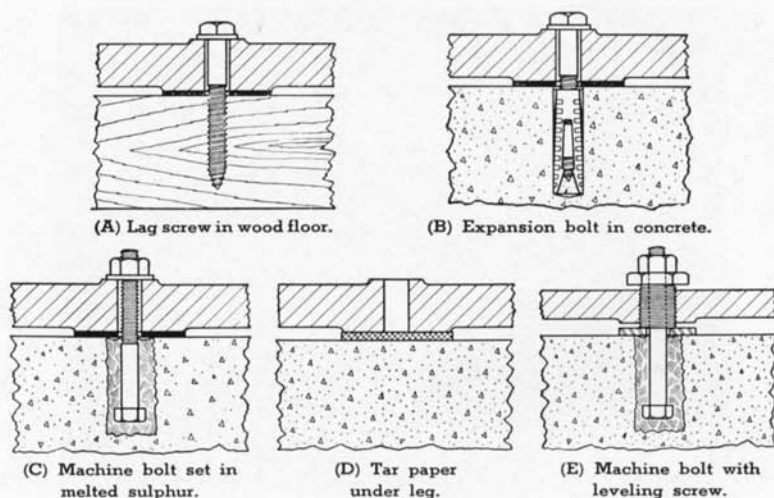

Fig. 14. Methods of securing lathe to floor.
Some lathes have leveling screws through which the hold-down bolts pass, as shown in (E) Fig. 14. The leveling screws simplify the leveling of the lathe as they eliminate the necessity of using shims. A steel washer, $\frac{1}{4}$ " to $\frac{1}{2}$ " thick, should be placed between the leveling screws and the floor.